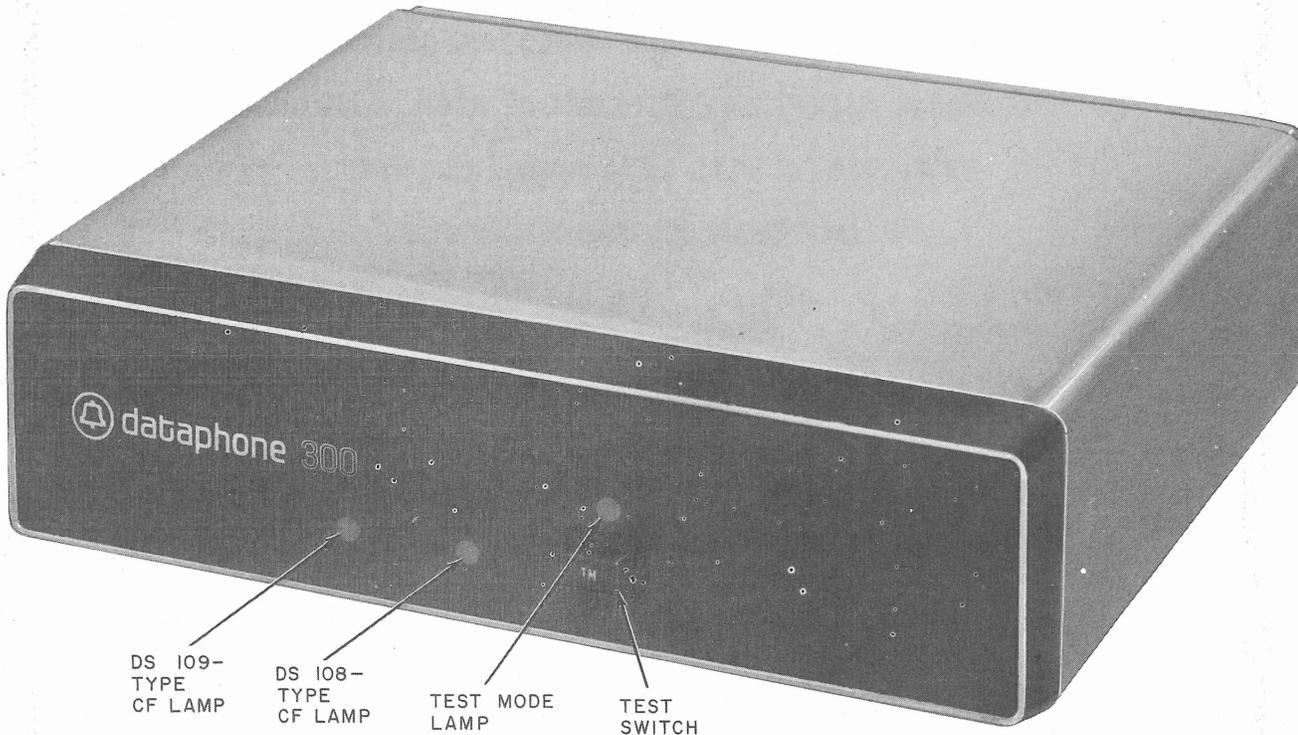
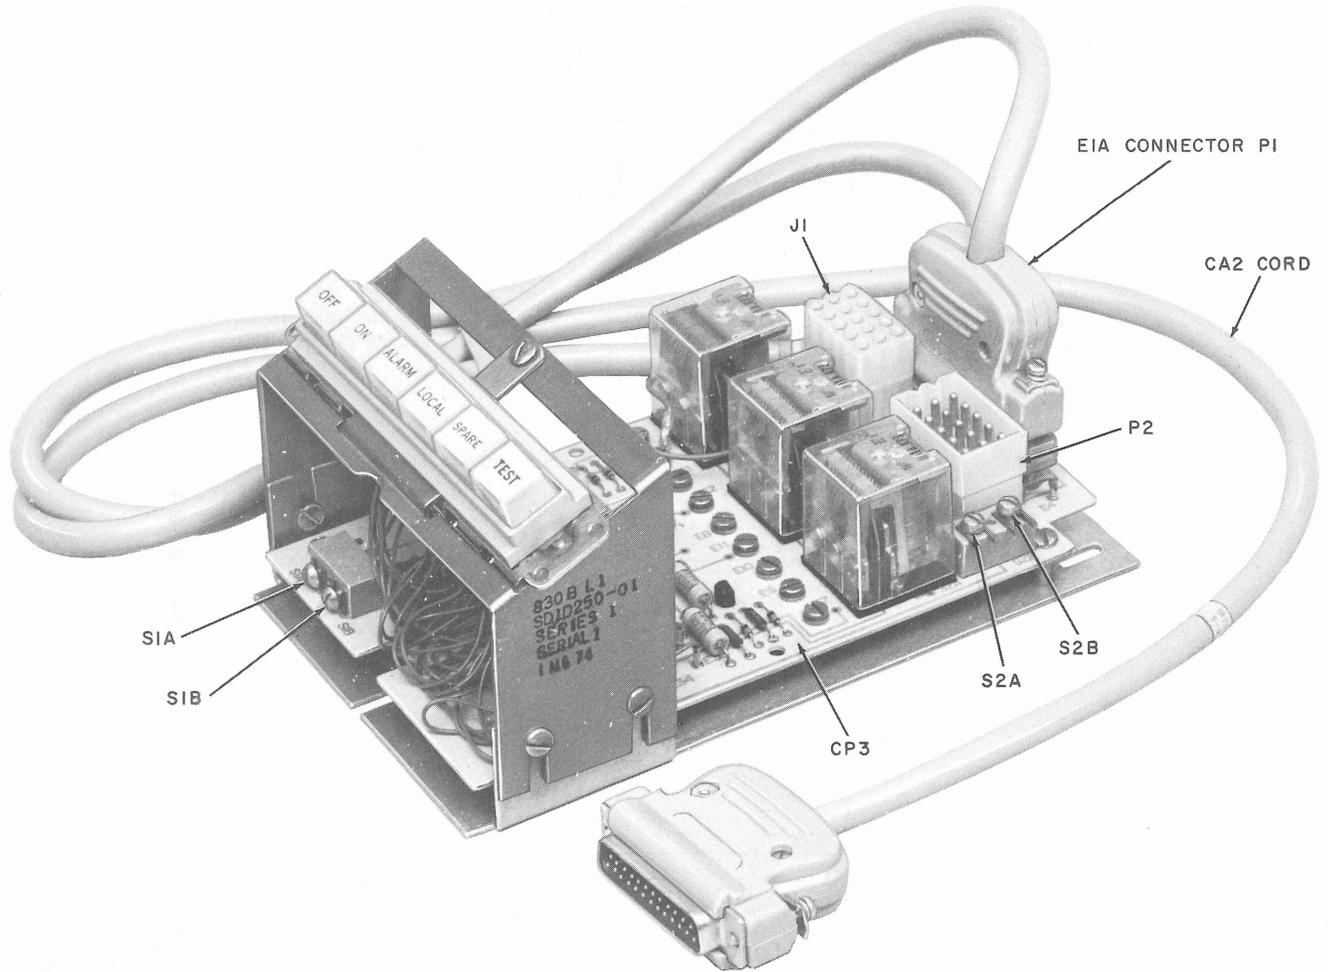
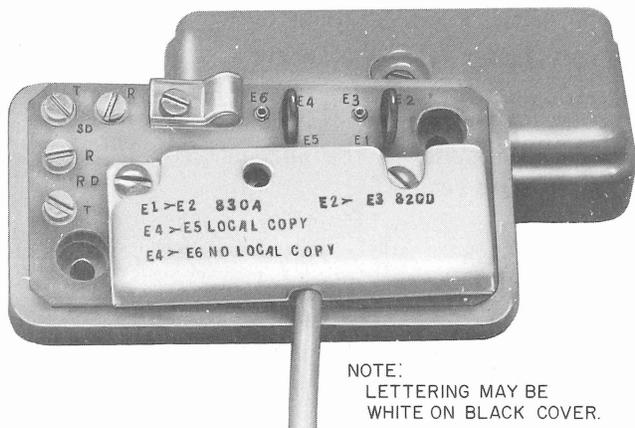

Fig. 1—DAS 830A
Fig. 2—DAS 830B
Fig. 3—DAS 830C
1.01 Data auxiliary set (DAS) 830A (Fig. 1) equipped with data set 108- or 109-type provides the basic data arrangement for private line (PL) service using customer-provided equipment (CPE) or Bell System teletypewriters (TTYs). DAS 830A (equipped with a data set) can be used in conjunction with DAS 830B (Fig. 2) or DAS 830C (Fig. 3) to provide the station arrangements shown in Fig. 4.
1.05 DAS 830C (Fig. 3) is used with a DAS 830A equipped with a data set 108- or 109-type, to convert standard EIA voltages from the data set to a 3- or 4-wire 20 mA current interface for a CPE or TTY requiring a 20 mA current interface of 30, 45, 55, or 75 baud. Operation of the DAS 830C up to 150 bauds is satisfactory with the Bell System General Purpose 35 TTY. The voltage interface between the DAS 830A and the DAS 830C conforms to EIA specification RS-232-C.
2.01 DAS 830A has an aluminum chassis with removable front and back plastic covers. Access to the screw terminals and option switches is obtained by removing the rear cover. Refer to Fig. 5 for the location and designation of these switches. Access to the data set is obtained by removing the front cover. The test switch (TM) and associated indicator are shown in Fig. 1. Table A lists the power cords and additional physical information for DAS 830A.